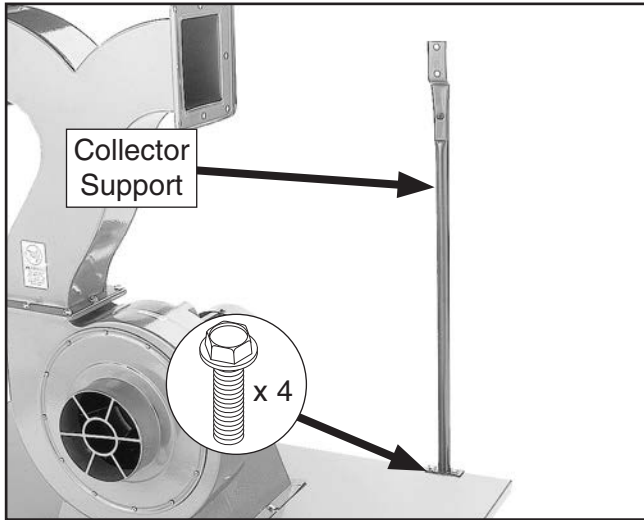

Figure 15. Collector support installed.
- Align each of the collector supports with the mounting holes on the base, as shown in **Figure 15**, then secure them in place with (4) $\frac{5}{16}$ "-18 x $\frac{1}{2}$ " flange bolts.